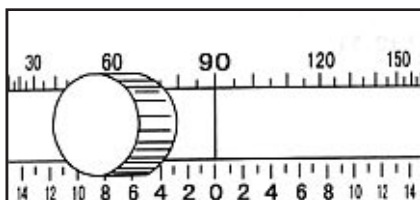

Fig. 7
- *5. If a prism compensator is provided, make sure that display of prism compensator is "0" before measurement. (Fig.7)